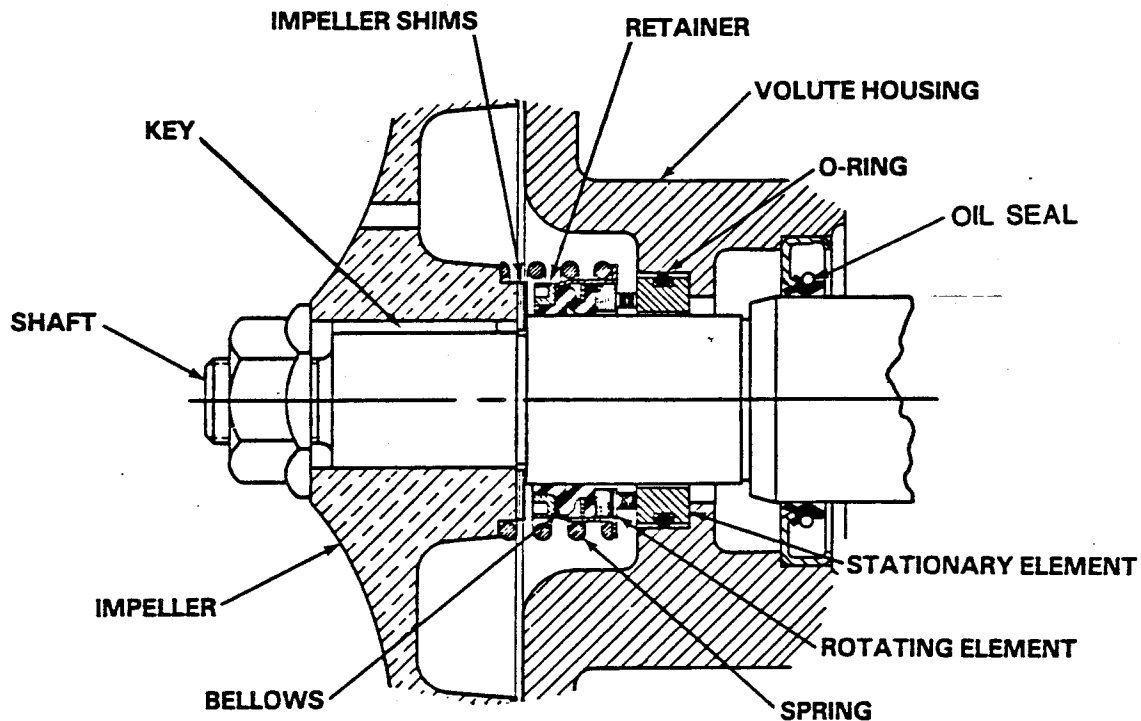

Figure 4. 25271-192 Seal Assembly
Replace the gearbox oil seal (11) if defective. It is recommended that a tapered sleeve be installed over the seal area of the shaft to prevent rolling the lip of the oil seal during installation. (See Figure 4 for detail of seal area). Lubricate the oil seal and sleeve to ease installation.
Place a drop of light lubricating oil on the seal faces; **never** use grease. Lubricate the O-ring and install it in the stationary seat. Use thumb pressure to press the seat and O-ring squarely into the seal bore. Be careful not to damage the seal face. Lubricate the shaft bellows with a small amount of light oil, and install the bellows and rotating elements as shown in Figure 4. Install the seal spring, making certain that all components of the seal are seated squarely.